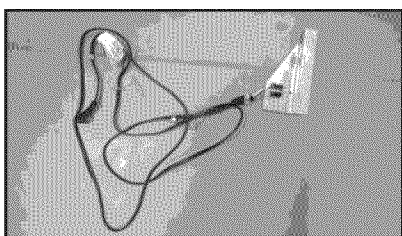

FIGURE 16
- Following the removal of the testing connector and both Line and Neutral, the switch plate assembly will be free from the original HV box assembly. See *Figure 16*.